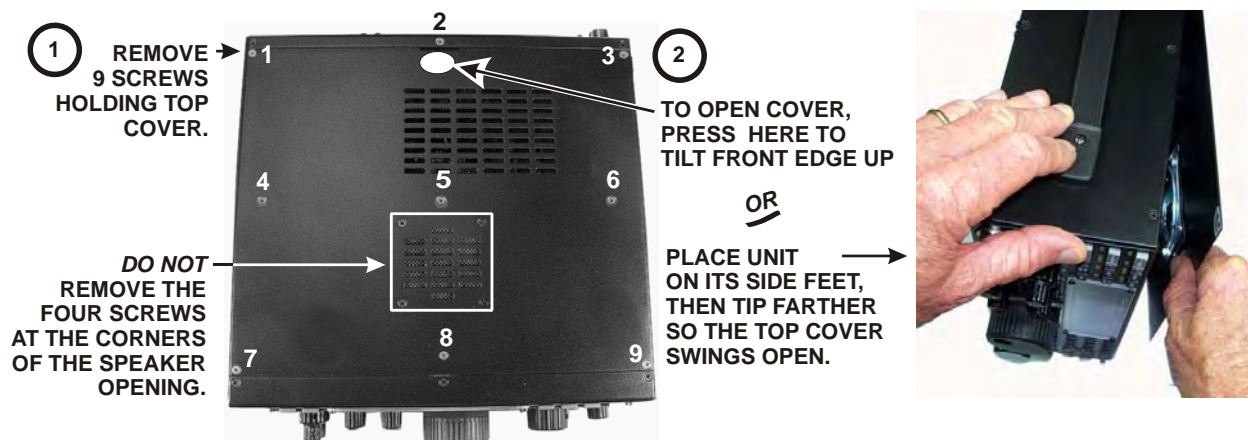

Figure 1. Removing the Top Cover
- ☐ Remove the top cover as shown in Figure 1. After the cover is open, lift it gently to reach the speaker wire connector. Unplug the speaker then set the top cover aside in a safe place.